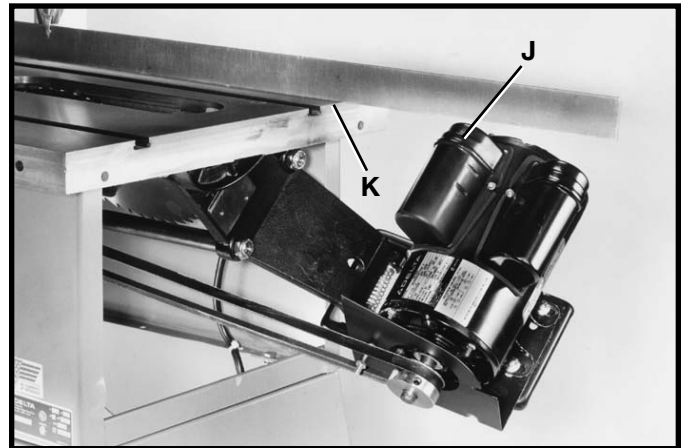

Fig. 24
8. **WARNING: IMMEDIATELY AFTER ASSEMBLING THE BELT, RAISE THE SAW BLADE TO ITS MAXIMUM HEIGHT AND TILT THE SAW BLADE TO 45 DEGREES. CHECK TO SEE IF THE MOTOR (J) FIG. 24, IS BELOW THE TOP OF THE TABLE SURFACE (K). IF THE MOTOR (J) IS ABOVE THE TOP OF THE TABLE SURFACE, THE MOTOR MUST BE MOVED TO THE LEFT UNTIL YOU ARE CERTAIN THE END BELL (J) OF THE MOTOR IS BELOW THE TOP OF THE TABLE SURFACE. THEN RE-ALIGN THE MOTOR PULLEY TO THE ARBOR PULLEY.**